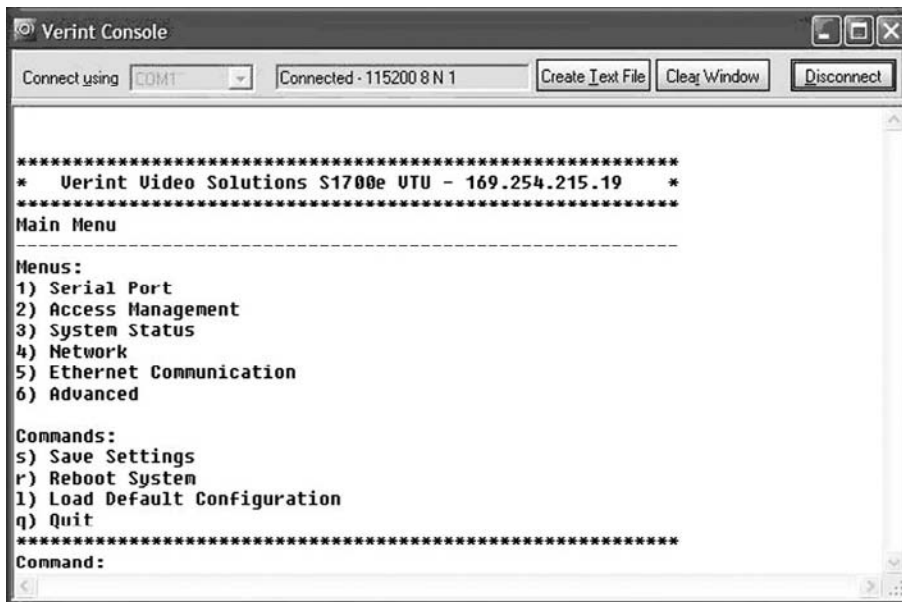

FIGURE 3-20 Verint SConfigurator console connection through RS232 (or you can use Windows' HyperTerminal).
4. The Verint Main Menu appears (see Figure 3-20).